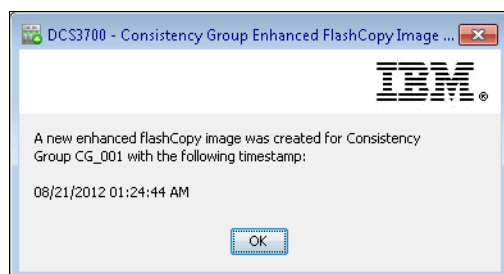

Figure 8-67 Consistency Group Enhanced FlashCopy Image Successfully Created dialog
- ▶ Create: The system takes a copy of the associated member logical drives and then displays the Consistency Group Enhanced FlashCopy Image Successfully Created dialog, as shown in Figure 8-67.